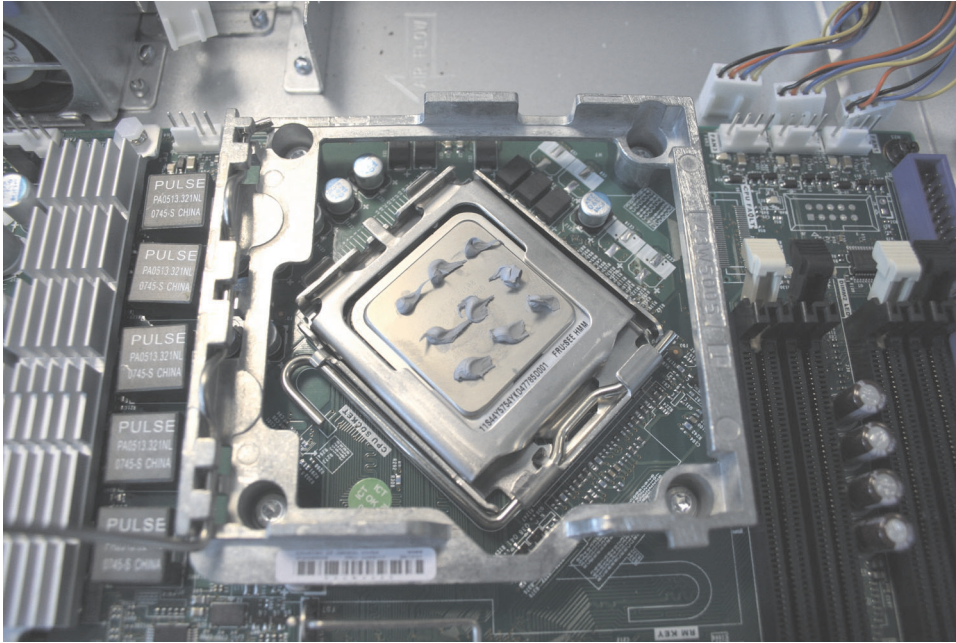

Figure 257. Complete set of nine thermal grease dots on the SAN Volume Controller 2145-8A4 microprocessor
- d. Apply thermal grease to the top of the microprocessor, as shown in Figure 257 on page 234. Apply nine dots of thermal grease in three rows of three dots each with the outer rows approximately 5 mm from the edge of the microprocessor. The diameter of the cap from the thermal grease syringe is 5 mm, so you can use it to judge the required position of the dots of thermal grease